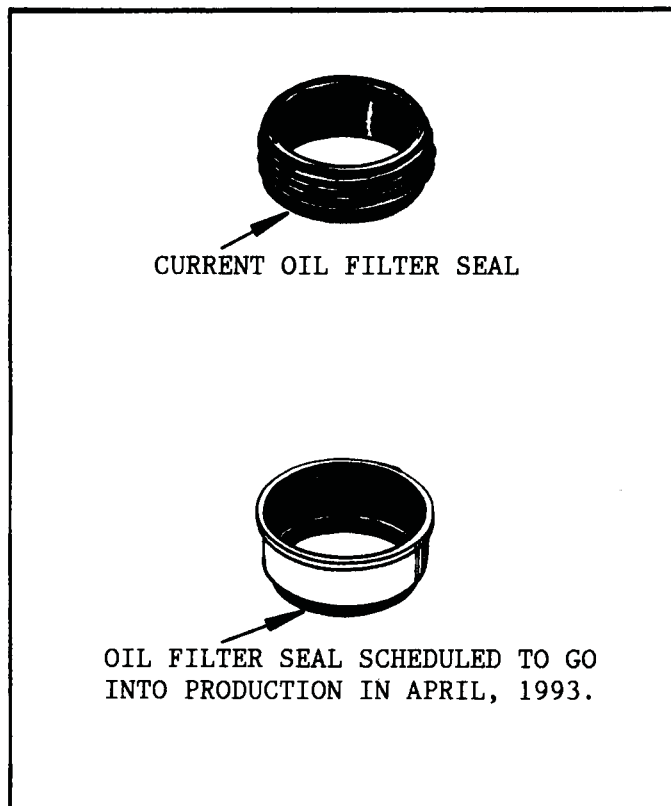

Figure 166
1. Install filter seal on filter neck if you have the previous style seal. See Figure 166 above.
2. If you are using the filter seal that is scheduled for production in April 1993, install it into the filter bore in the oil pump with seal driver. See Figure 166 above.